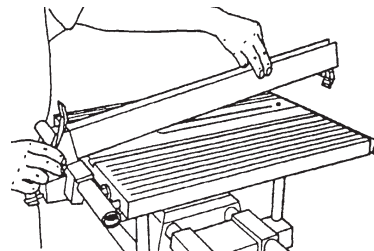

Figure 73
- Place the Rip Fence on the Worktable by first putting the Fence Base on the front, as demonstrated in Figure 73, then lowering the rest of the Rip Fence.